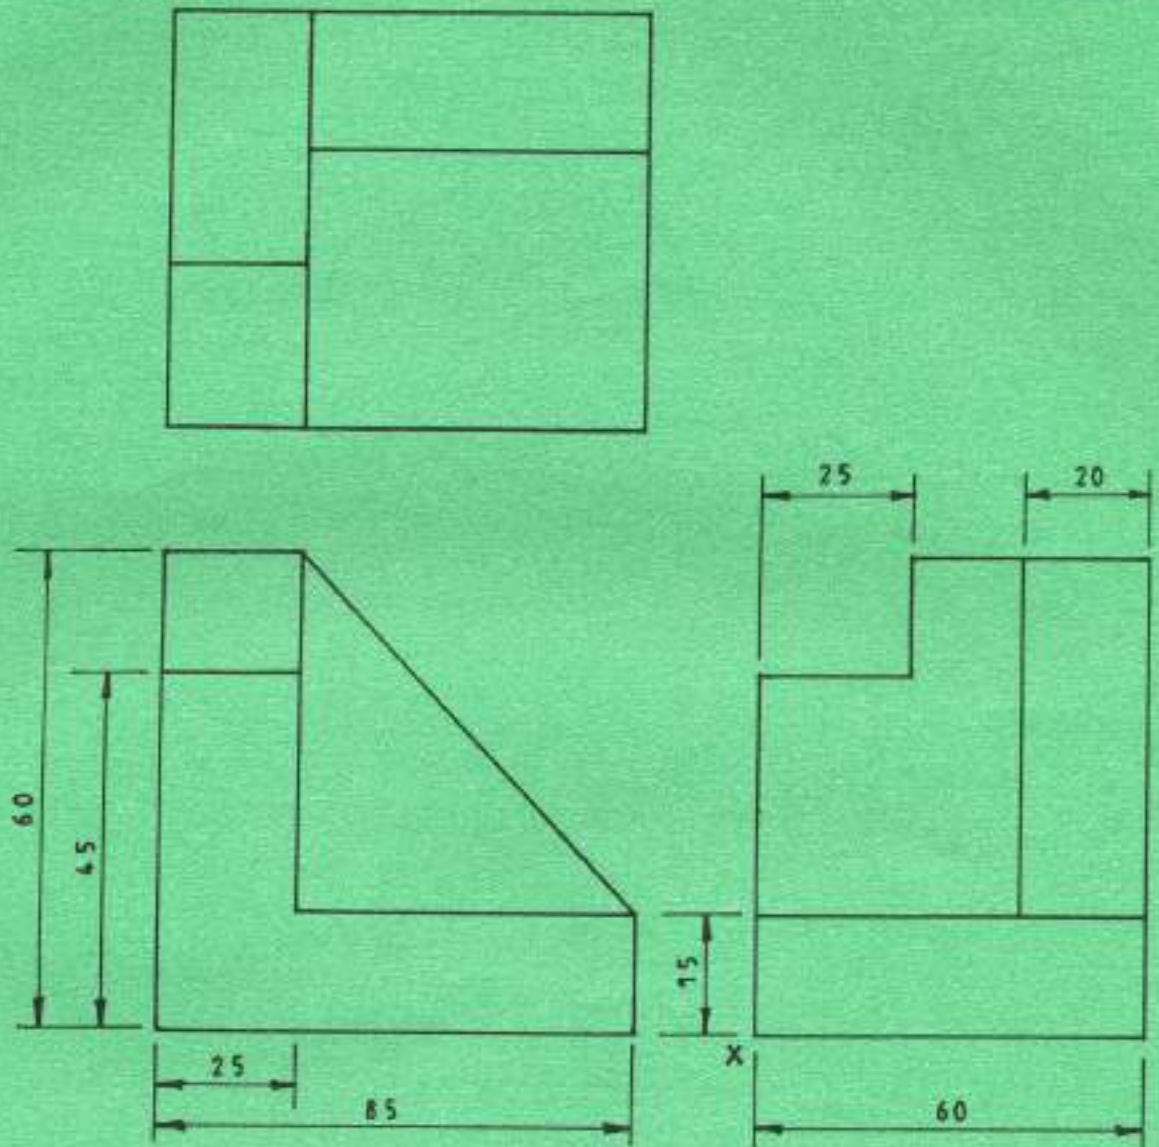

Fig. 7
7. Figure 7 shows three views of a block diagram in third angle projection. Draw the block in isometric making point "X" as the lowest point. (20 marks)